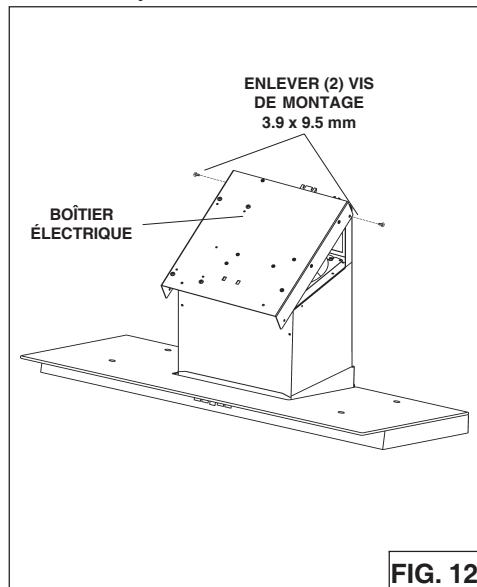
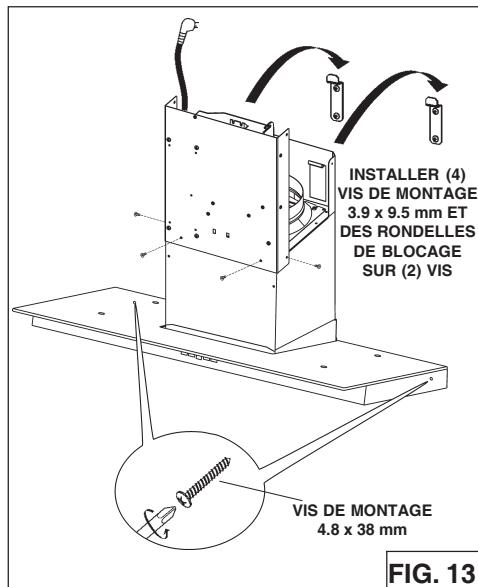

FIG. 12
FIG. 13
1. Remove the electrical system box from chimney frame by removing (2) 3.9 x 9.5 mm screws. Fig. 12.
2. Attach electrical system box to frame using (2) 3.9 x 9.5 mm screws removed in Step 1 and (2) 3.9 x 9.5 mm screws and (2) lock washers from hardware bag.
3. Install hood onto the wall mounting brackets. Fig. 13. Adjust leveling screws on mounting brackets to level hood with floor.
4. Mark and install (2) additional screws as shown. Use drywall anchors only if necessary.